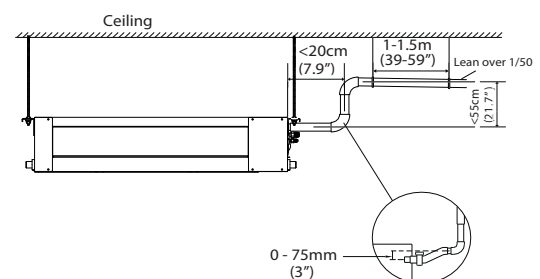

Fig. 17 — Condensate piping with a pump
- Ensure the highest point in the condensate piping is as close to the unit as possible (see Fig. 17).